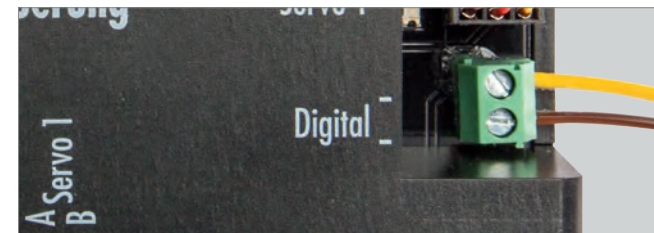

Fig. 4: Connecting a digital control unit
- ▶ If you want to **preset** servos via a digital control unit, connect the »Digital« port of the Servo Control to a programming track port of the digital control unit, see Fig. 4.
- ▶ If you want to **position** servos via a digital control unit, connect the »Digital« port of the Servo Control to a track output of a digital control unit, see Fig. 4.